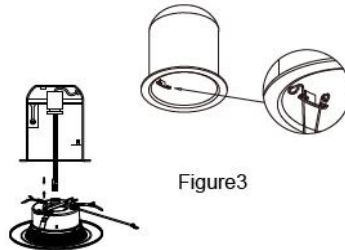

Figure3
① The lamp at both ends of the spring are arranged inside the lamp holder bayonet, (as shown in Figure 3) through the spring pressing on both sides, so that it can be on both sides of the bayonet.
② If using friction clip blades, while wearing gloves squeeze opposing clips together until clips fit inside housing. Then carefully insert retrofit kit into housing allowing springs to expand to hold in housing.